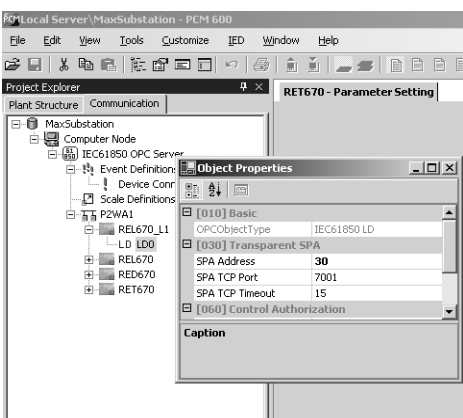

Figure 8: SPA Address.
- Set the SPA address for the IED under the communication structure. Open the IED and the LDO and set the address to 30. See figure 8.